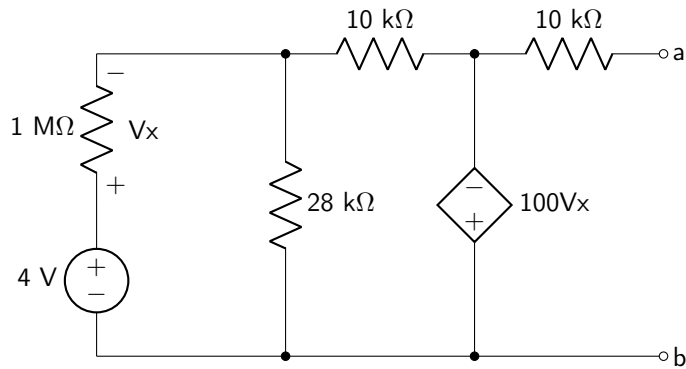

Figure 5.12: One of the Thévenin mystery box circuits.
6. Consider the circuit shown in figure 5.12. Calculate the Thévenin equivalent voltage and resistance with respect to nodes a and b. When you have completed this, identify which of the mystery circuits that it is.